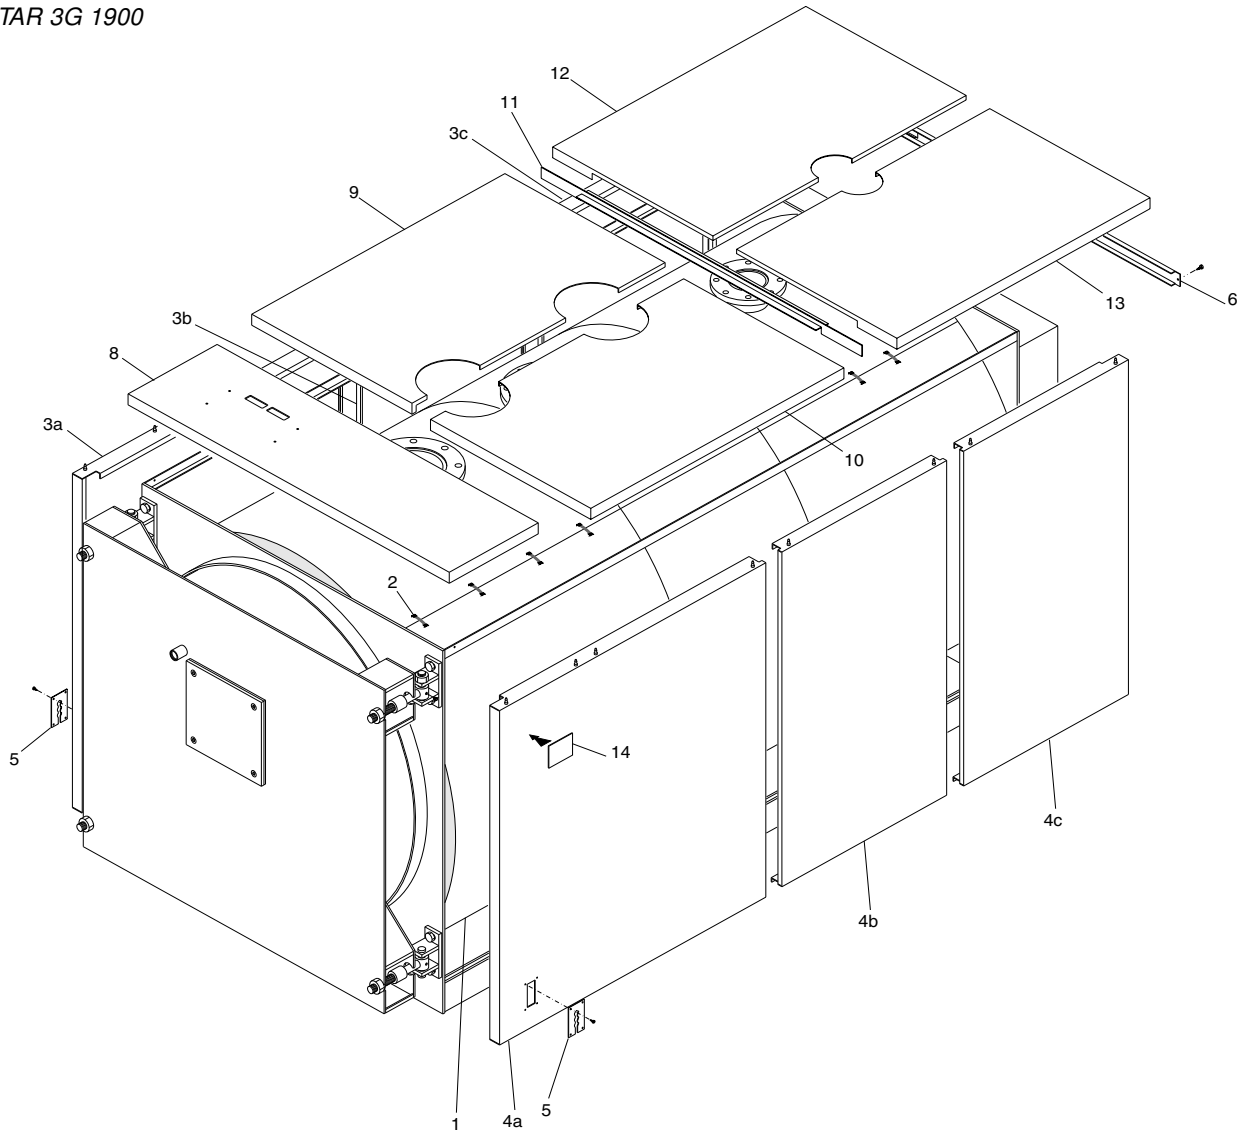

fig. 25
N.B. For the model **TST 3G 1900** (ref. fig. 25 and 27) the casing and insulation are contained in 4 boxes marked:
Assembly sequence (Ref. fig. 25)